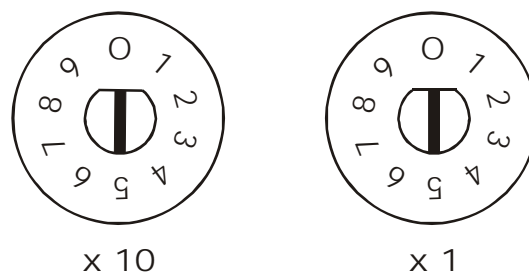

FIG. 76: ROTARY SWITCHES/SETTING NODE ADDRESS TO 0, 0
Step 2. Use a slotted head screw driver and configure the Node address of the Instrument by setting the flats of the rotary switches so that they are pointing to zero (0,0). (See Fig. 76)
NOTE: Changing the rotary switches to an address other than 0, 0 - Profibus will not work. (See Fig. 76)